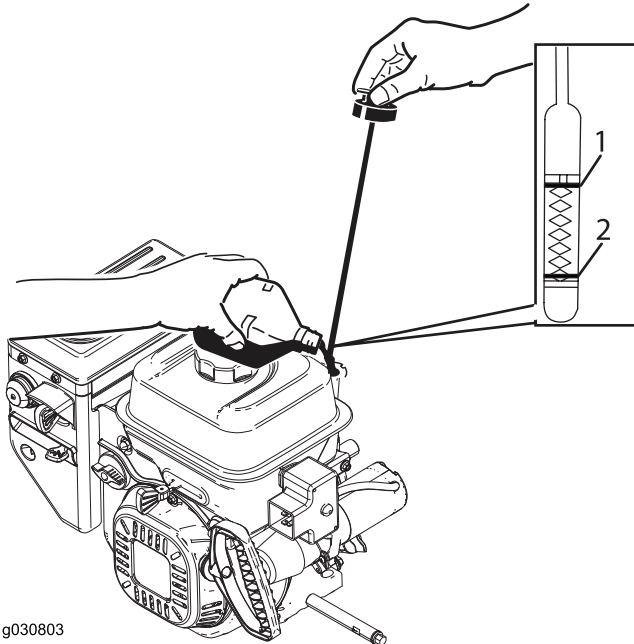

Figure 34
2. Remove the dipstick and check the oil level (Figure 34). If the oil level is below the Add mark on the dipstick, add oil. Refer to Changing the Engine Oil (page 20).